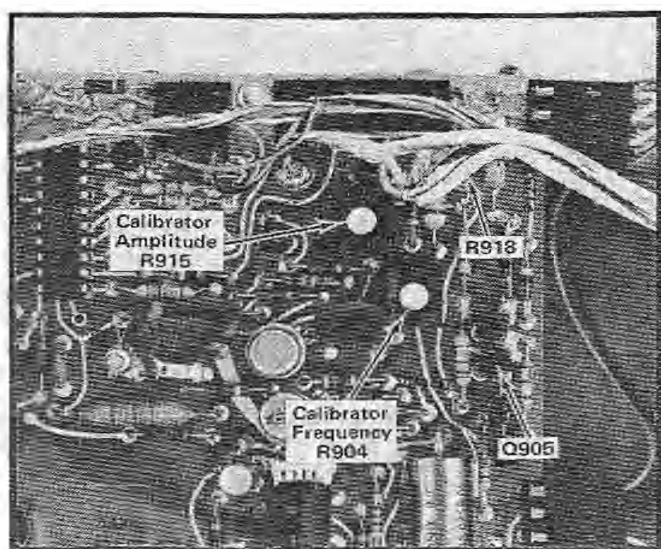

Fig. 5-13. Location of Calibrator circuit components.
- a. Remove Q905 from its socket (see Fig. 5-13).
- d. ADJUST—R915 (see Fig. 5-13) for a DC voltage measurement of 0.6 volt.
- a. Connect a 10X probe (432 standard accessory) to the CH 1 input connector. Connect the tip of the probe to the top of R918 (see Fig. 5-13).
h. ADJUST—If the limits of the CHECK— step are not met set the TRIGGER SOURCE to CH 1, TRIGGER COUPLING to AC, and the TIME/DIV to .2 ms. Adjust the TRIGGER LEVEL control for a stable display and adjust Calibrator Frequency adjustment R904 (see Fig. 5-13) for minimum drift of the time marks across the calibrator waveform. Recheck repetition rate accuracy in the manner given in steps a through g.